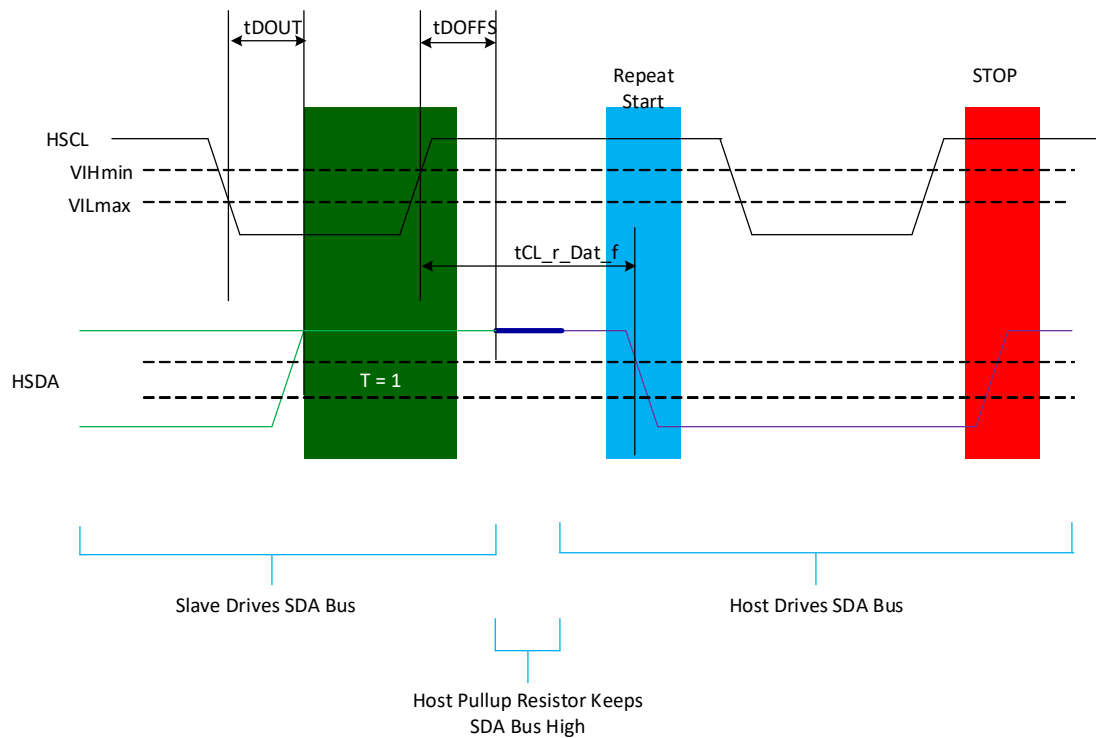

Figure 5 — $T=1$; Host Ends Read with Repeated START and STOP Waveform
7. See Figure 5 to see how Host ends slave device operation.
2. See Figure 5 to see how Host ends slave device operation.
4. See Figure 5 to see how Host ends slave device operation.